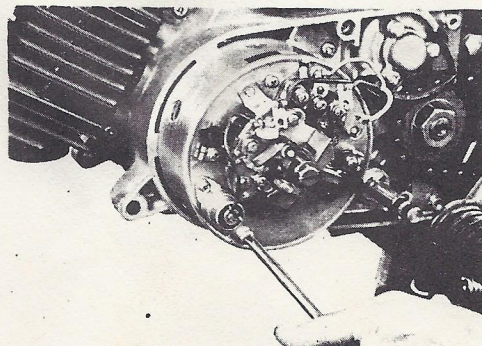

Fig. 3-1-7
6. Remove the yoke ass'y mounting bolt and the yoke. (Fig. 3-1-7)